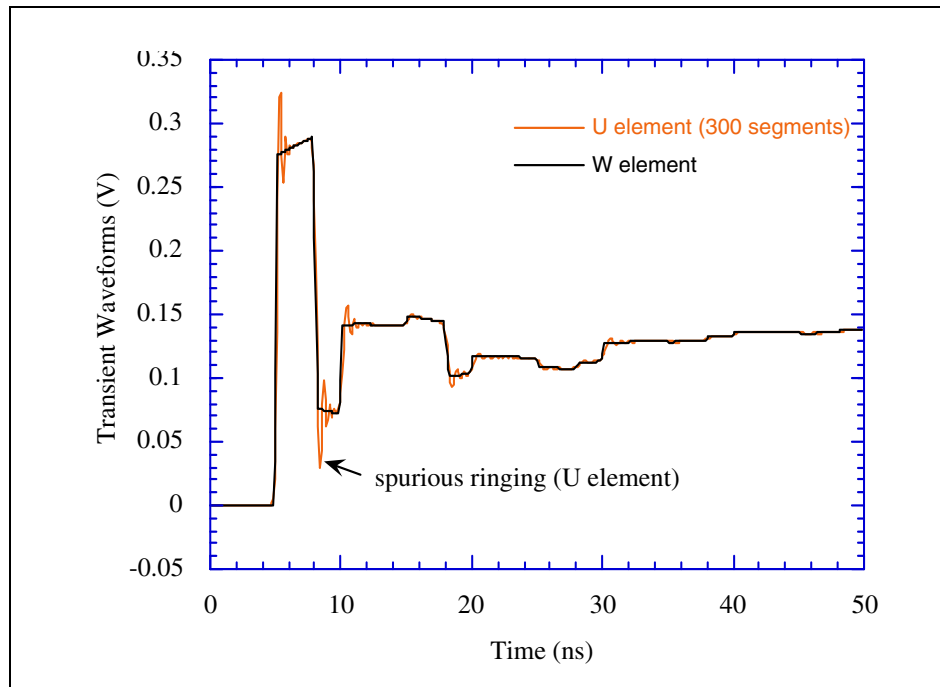

Figure 32 Spurious Ringing in U-element
- No spurious ringing, such as is produced by the lumped model. (See Figure 32 on page 117.)
The W-element provides accurate results with just one or two time steps per excitation transient (0.1 ns in Figure 32 on page 117). Like the T-element, the W-element supports the `TLINLIMIT` parameter. The `TLINLIMIT=0` default setting enables special breakpoint building, which limits the maximum time step by the smallest transmission line delay in the circuit. This improves transient accuracy for short lines, but reduces efficiency. Setting `TLINLIMIT=1` disables this special breakpoint building.